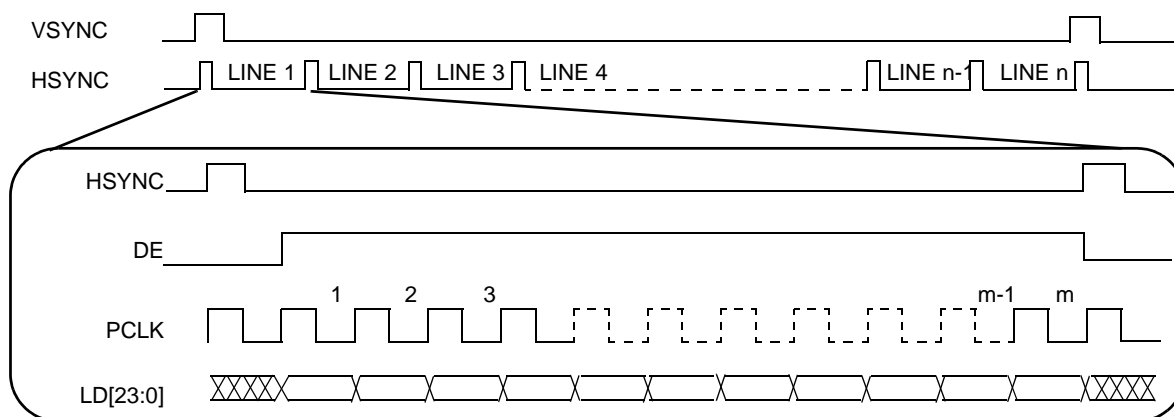

Figure 23. TFT LCD interface timing overview1
Figure 23 depicts the LCD interface timing for a generic active matrix color TFT panel. In this figure signals are shown with positive polarity. The sequence of events for active matrix interface timing is:
1. In Figure 23, the “LD[23:0]” signal is “line data,” an aggregation of the DCU’s RGB signals—R[0:7], G[0:7] and B[0:7].